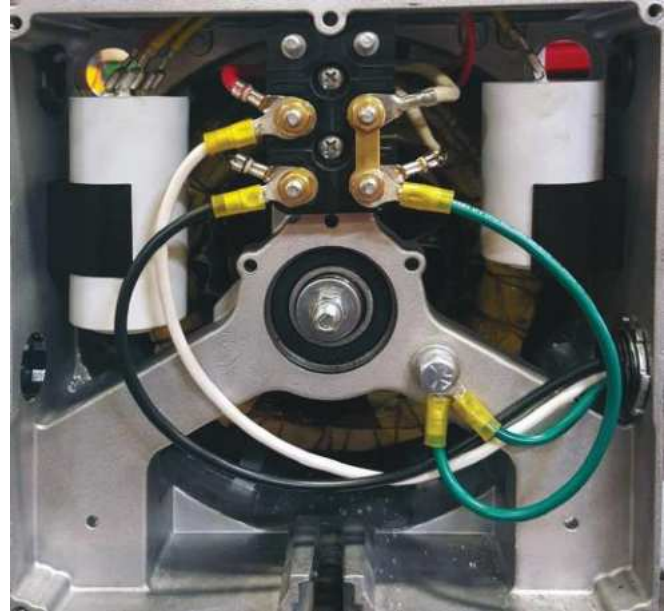

Figure 5-25. Generator
1. Use volt meter to measure between the two main input wires L-1 (black wire) and L-2 (white wire). (**Figure 5-25**)
2. Set voltmeter to read frequency (Hz), to measure between the two main input wires L1 and L2. **(Figure 5-25)** A photo tachometer may also be used to check the speed of the generator at the motor coupling by removing the motor coupling shield.